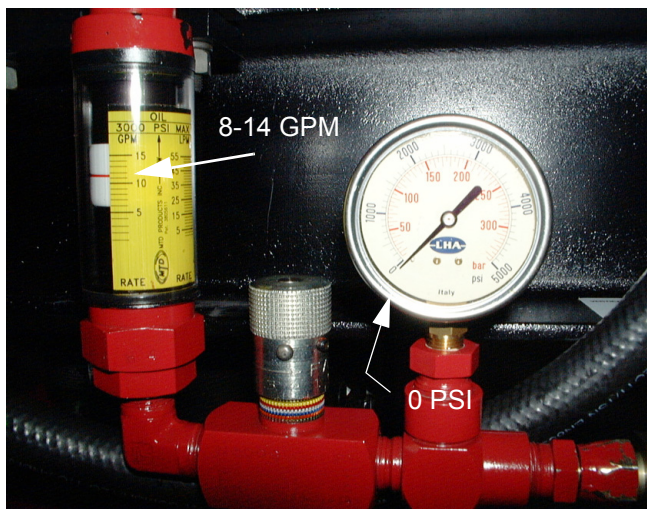

Figure 4
5. Record the GPM of the fluid flow at the flow meter.____ See Figure 4.